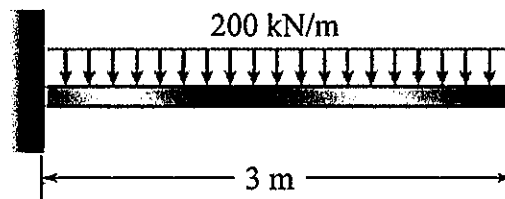

Figure 3(c) / Rajah 3(c)
- CLO2 (c) A cantilever beam 3m long is subjected to a uniformly distributed load of 200 kN/m as illustrated in Figure 3(c). Given the Young's modulus, $E = 483 \text{ GN/m}^2$ and the second moment of area, $I = 6.21 \times 10^{-5} \text{ m}^4$, determine: